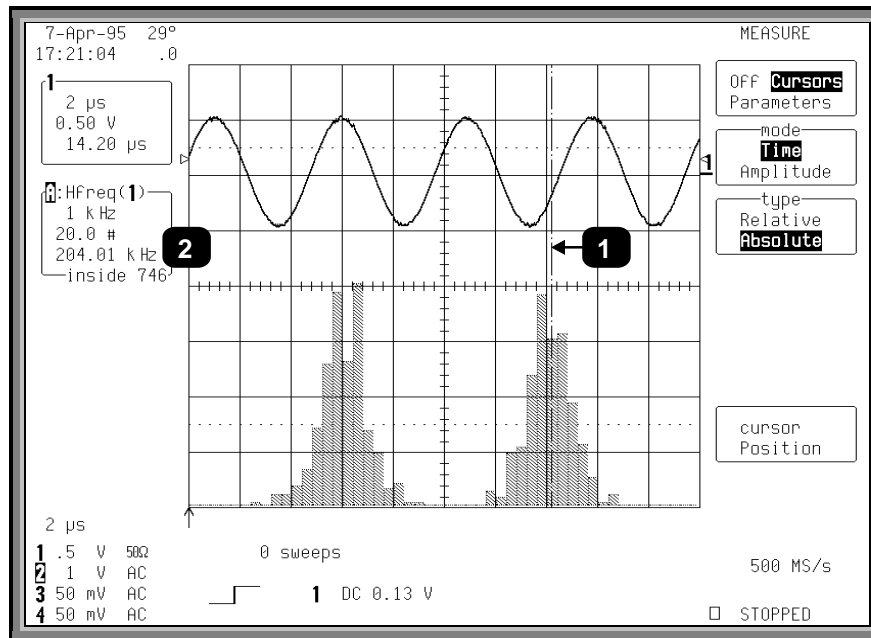

Figure 1.4
Figure 1.4, below shows the use of the measurement cursor (Item ①), to determine the frequency represented by one bin of the distribution. The value of the bin, inside the Displayed Trace Field is indicated by ②.